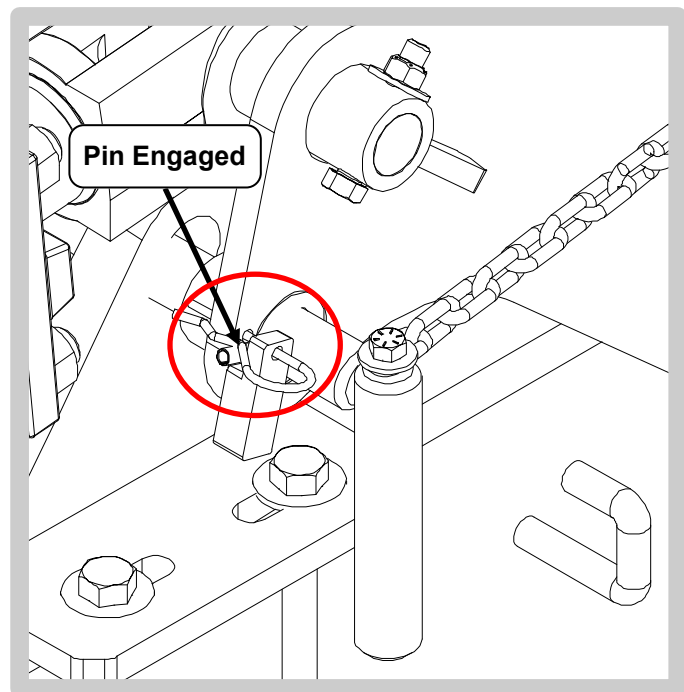

FIGURE 9
8. **Ensure the Main Lift transport pin is properly engaged. The roll pin must be locked into the tab in the frame and cotter pin installed (fig 9). If this is not properly engaged DAMAGE WILL OCCUR.**
- The down pressure can be adjusted by moving the spring position on the top of the lift arm, in holes A-C and D (fig 9).